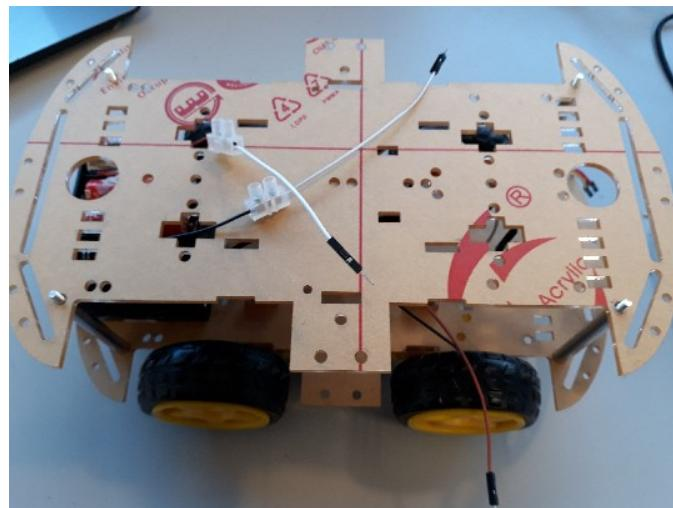

Figure 18: The wires from the bottom of the buggy threaded through the top plate.
Step 16: Once all posts have been securely attached to the base plate, the upper plate can be placed on top of the posts and secured with additional nuts. As the plates are not symmetrical, the plate may need rotating until it can fit properly. Thread the wires from the battery from below up through the top plate as shown in figure 18.